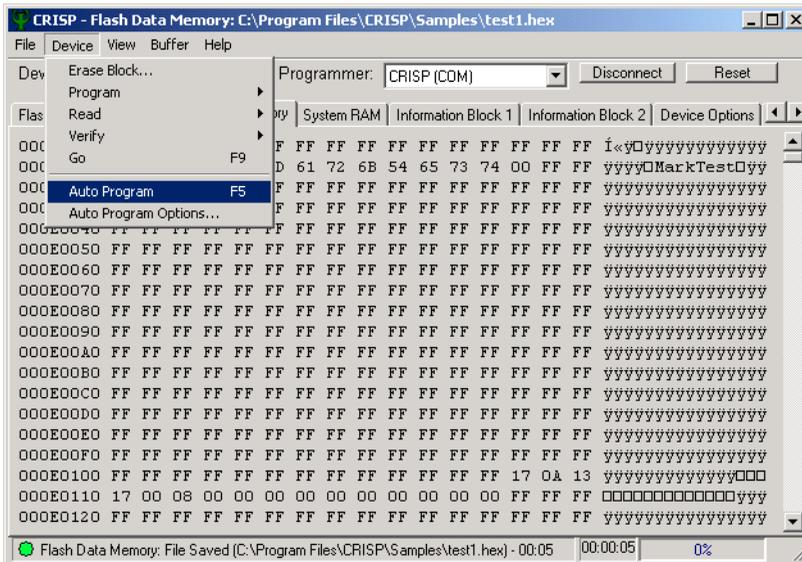

Figure 6-21. Selecting the Auto Program Command
4. Invoke **"Single Click" Programming**. Select the Device -> Auto Program command, as shown in Figure 6-21.